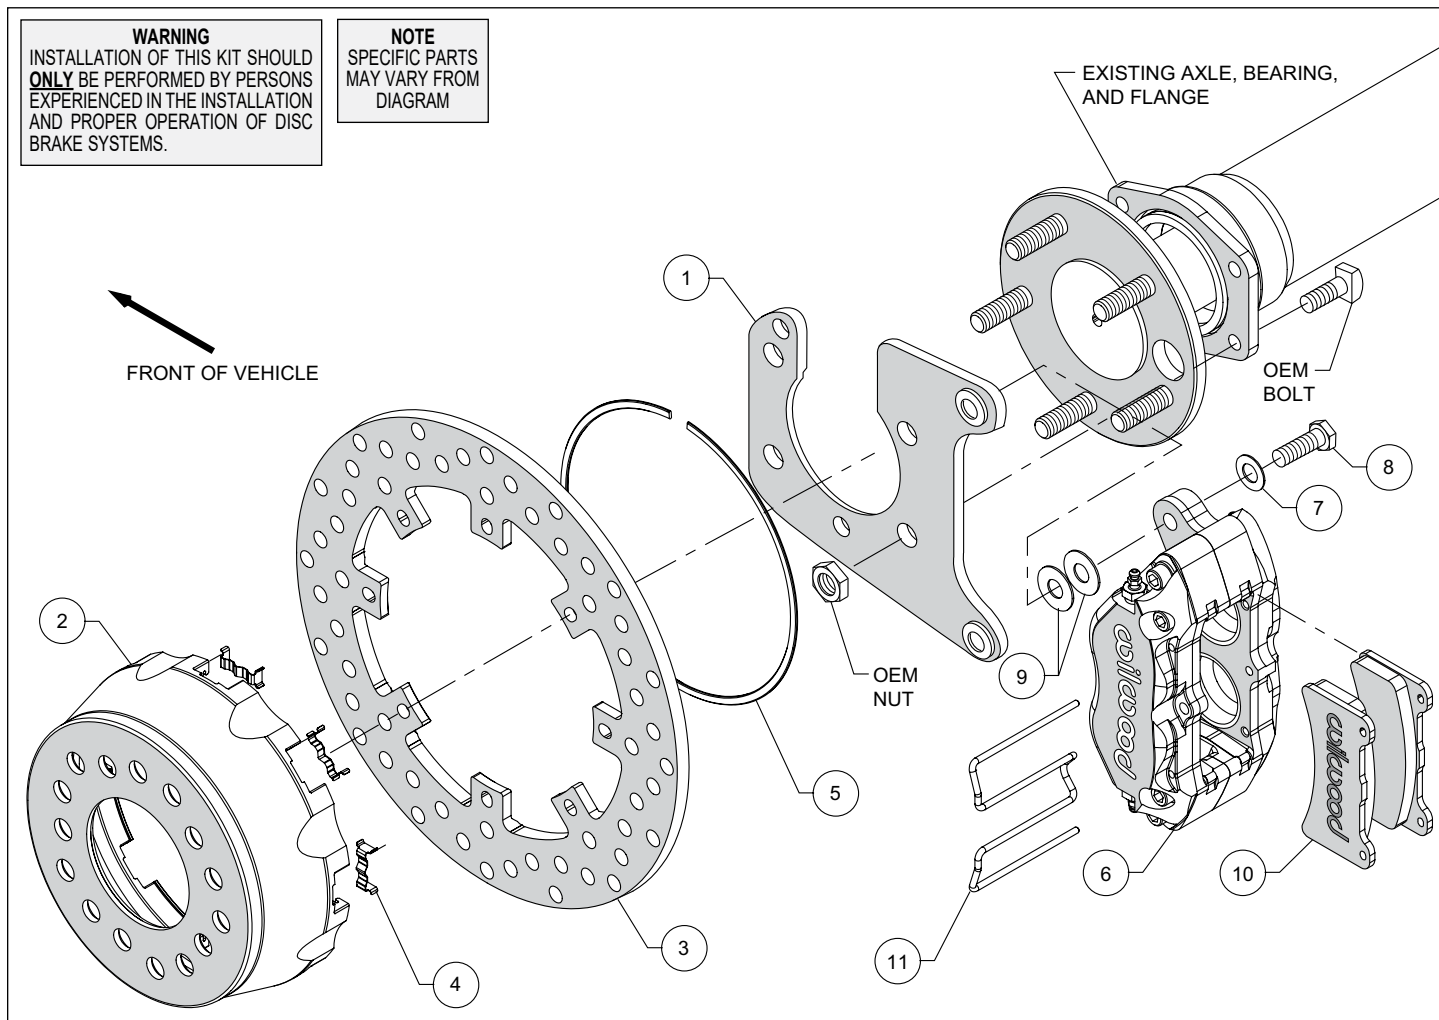
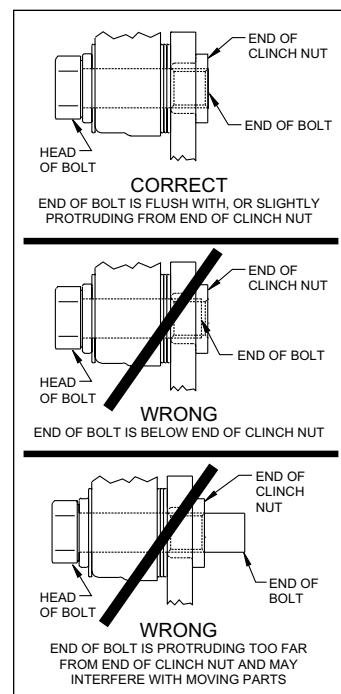

Figure 1. Typical Installation Configuration
Figure 5. Clinch Nut Engagement Diagram
Assembly Instructions (numbers in parenthesis refer to the parts list and Figure 1 on the preceding pages): **CAUTION:** All mounting bolts must fully engage clinch nuts. Be sure to check that all bolts are either flush or protruding through flanged side of clinch nut after shimming, Figure 5.
- Install the caliper mounting bracket (1), with the slot for the axle pointing upward, to the housing flange using the OEM bolts and nuts, as shown in Figure 1 and Photo 1. Ensure that the heads of the clinch nuts are facing outboard, Photo 1. Apply red *Loctite*® 271 to the OEM bolt threads and torque to OEM specifications.
- Insert the dynamic mount wear plates (4) into the slots in the hat (2) making sure the tabs snap in place, Photo 2. Orient the rotor (3) as shown in Figure 1 and Photo 3, with the flush mount tab side facing the hat. Attach the rotor to the hat using snap ring (5) by pushing down on the rotor and installing the ring into the groove in the hat, as shown in Photo 4. Ensure that the ring is fully engaged in the groove.
- Align the correct hole pattern in the hat (2) with the axle stud pattern and slide the hat/rotor assembly onto the axle hub. **NOTE:** The hat must fit flush against the axle flange or excessive rotor run out may result. Install three lug nuts (finger tight) to keep the hat/rotor in place while continuing with the installation. **NOTE:** The hats included in this brake kit are drilled for .68" diameter wheel studs.
- NOTE:** Please reference the caution statement at the beginning of the assembly instructions. Mount one caliper (6) onto the mounting bracket (1) using bolts (8) and washers (7), as shown in Figure 1. Initially place two .035" thick shims (9) on each bolt between the caliper and the bracket, Photo 5. Temporarily tighten the mounting bolts and view the rotor (3) through the top opening of caliper. The rotor should be centered in the caliper, Photo 6. If not, adjust the caliper by adding or subtracting shims between the bracket and the caliper. Always use the same amount of shims on each of the two mounting bolts. **NOTE:** The end of each bolt must be flush with or slightly protruding from the head of the clinch nut. If necessary, place spare shims between washer and caliper mounting ear to achieve the proper clinch nut engagement, as shown in Figure 5. Once the caliper alignment and clinch nut engagement are correct, remove the bolts one at a time, apply red *Loctite*® 271 to the threads, and torque to 40 ft-lb.